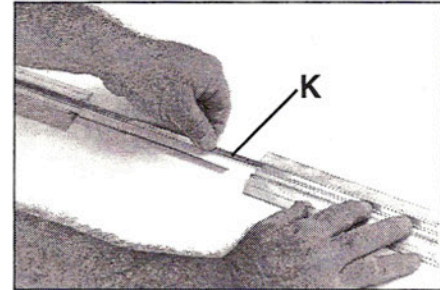
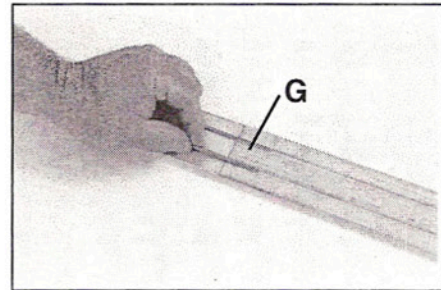

figure 1
figure 2
Lay tracks (F) on floor parallel to each other. Install stainless steel inserts (K) to fill track as shown in *figure 1*. For additional track length, place pins (G) as shown in *figure 2*, to the underside of the track to connect tracks together.